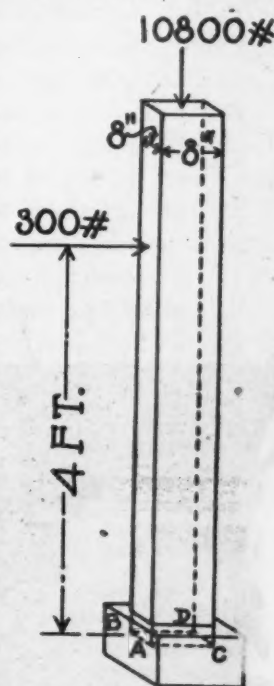

Fig. 8. Post in Compression and Bending
Take, for example, a wooden post 8 inches square and 6 feet high, which carries a load of 12,800 pounds and is pushed to the right by a force of 300 pounds applied 2 feet from the top, Fig. 8, to find the fibre stresses in A B and C D.
Figure 8. Block Texture Produced by a Facing Mixture of Marble, Quartz, Granite and Mica Spar and White Portland Cement, Acid Washed as Explained in the Accompanying Article.
**Acid Wash**—The surface may be washed with dilute muriatic acid, applied with an ordinary scrubbing brush and thoroly washed with clean water when the etching effect of the acid has proceeded as far as desired. This finish is shown in Figure 8. In some instances it has been found more economical to dip the unit in an acid bath instead of applying the acid by hand. The strength of the solution will depend upon the age and hardness of the concrete but generally varies from three to six parts of water to one